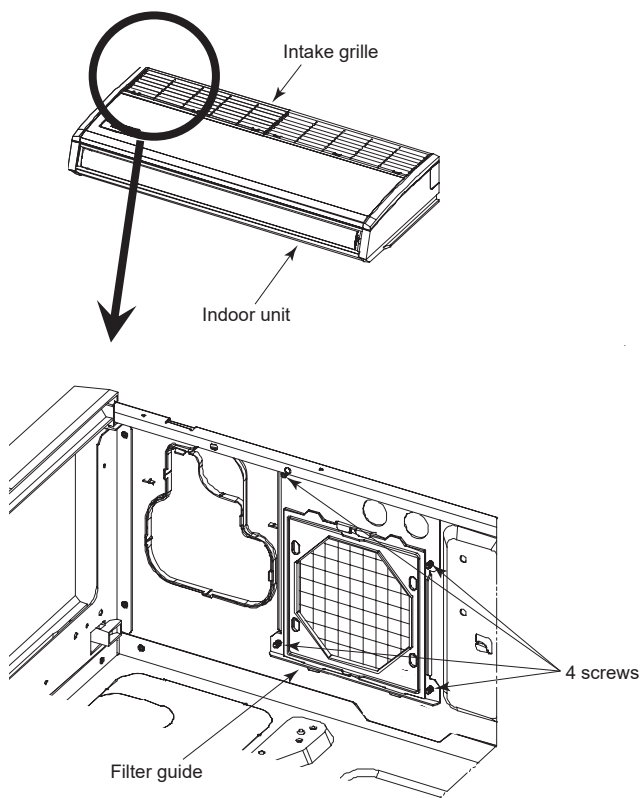
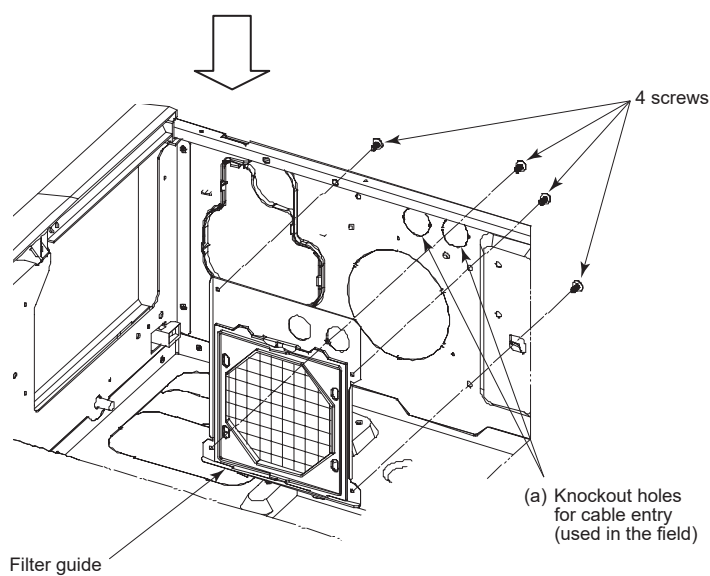

Fig. 6-2
Fig. 6-3
- * Fig. 6-2 and Fig. 6-3 show the state where the intake grille was removed.